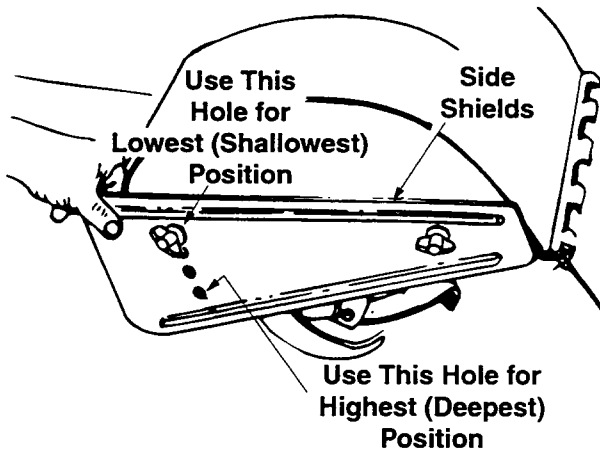

Figure 10
6. To adjust the side shields, remove the wing nuts. See Figure 10. Place side shield in position desired. Replace wing nuts and tighten securely.